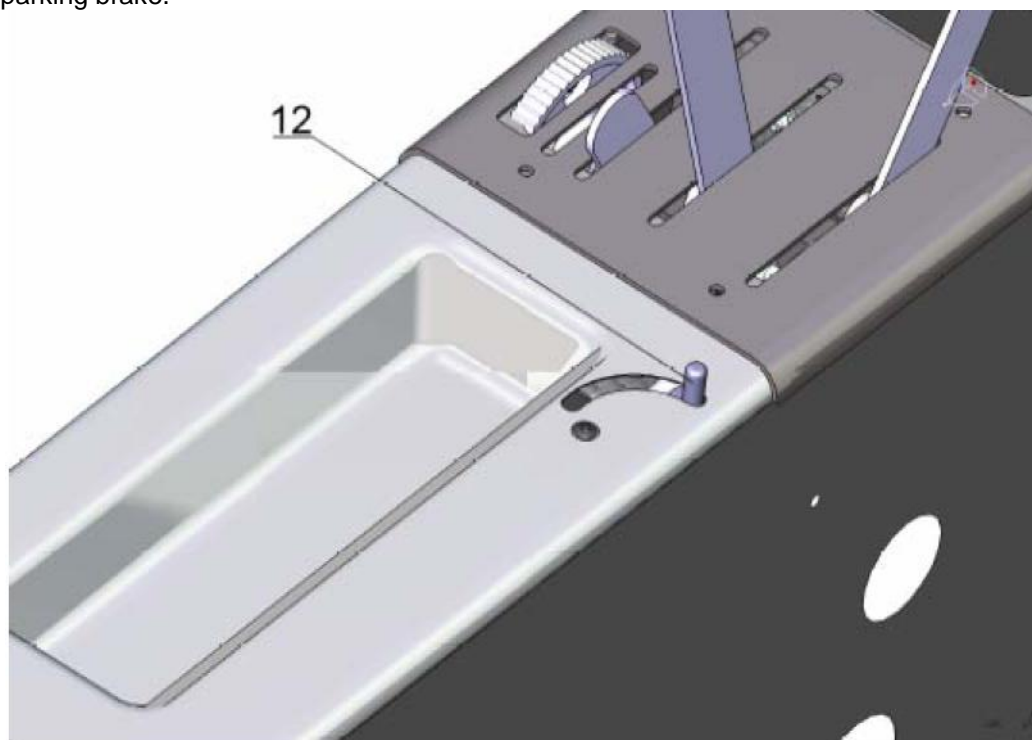
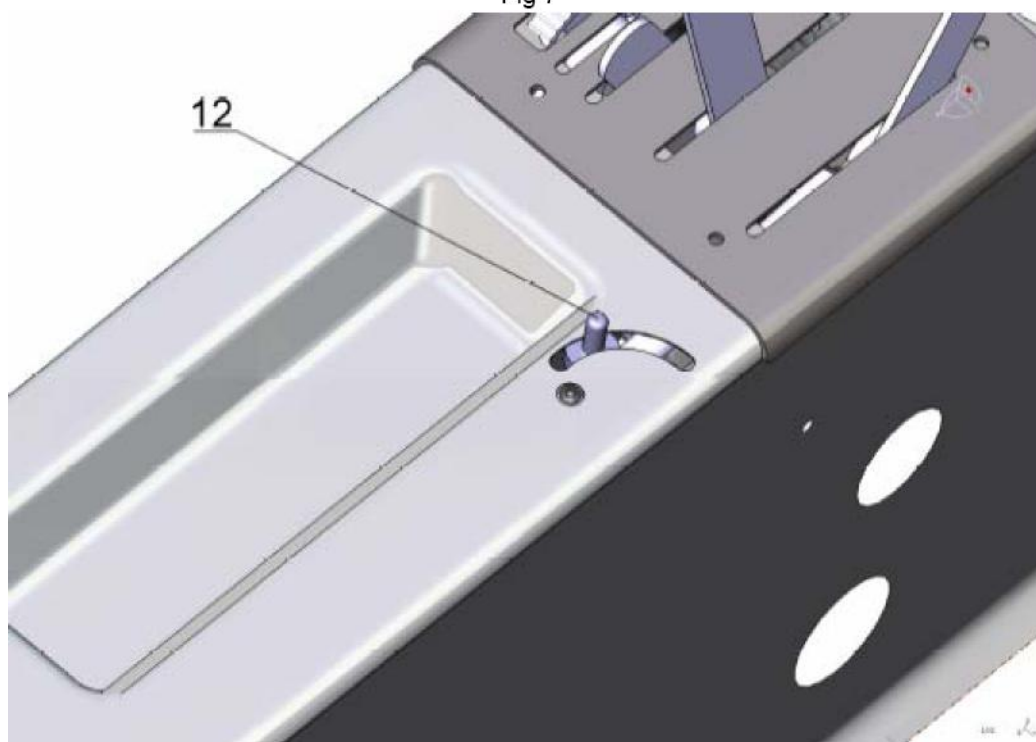

Fig 7
Fig 8
Brake conduits are opened at forward position of valve grip (item 12 fig.7). Brake conduits are closed at sideward position of valve grip (item 12 fig.8). System works: forward grip position – main brake, sideward position – parking brake.